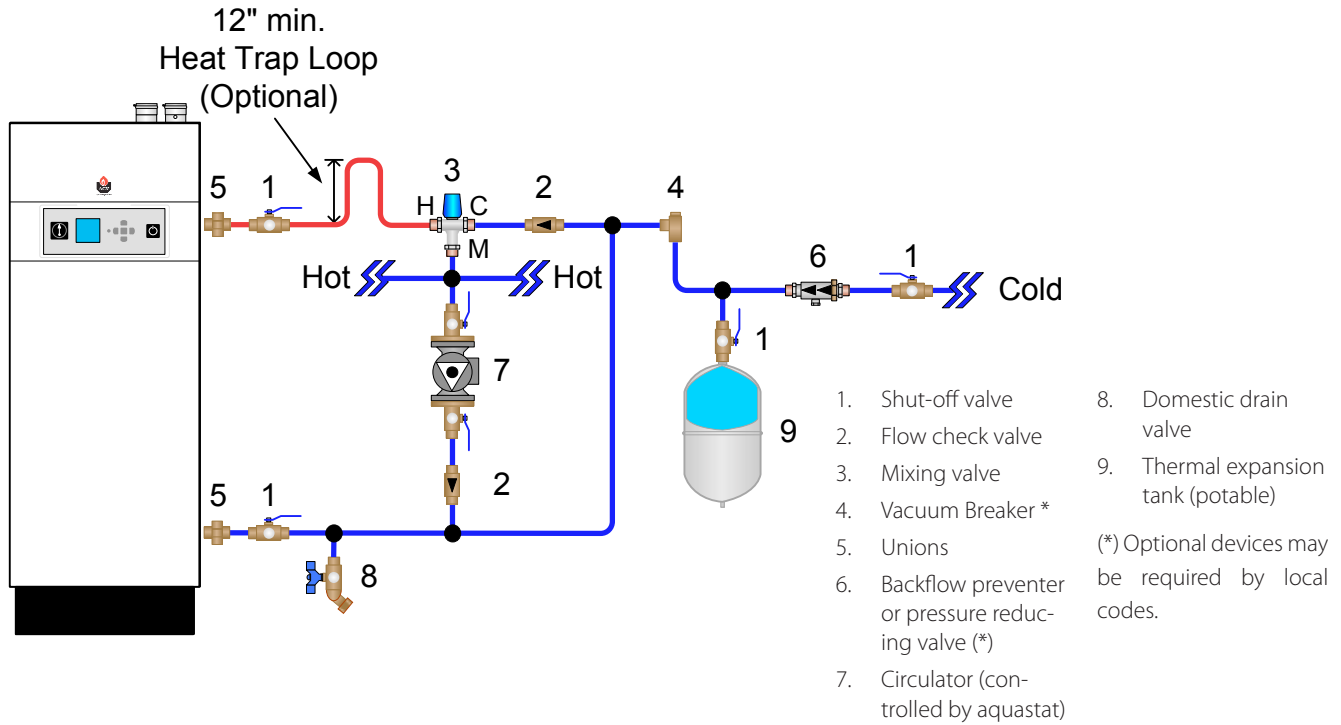
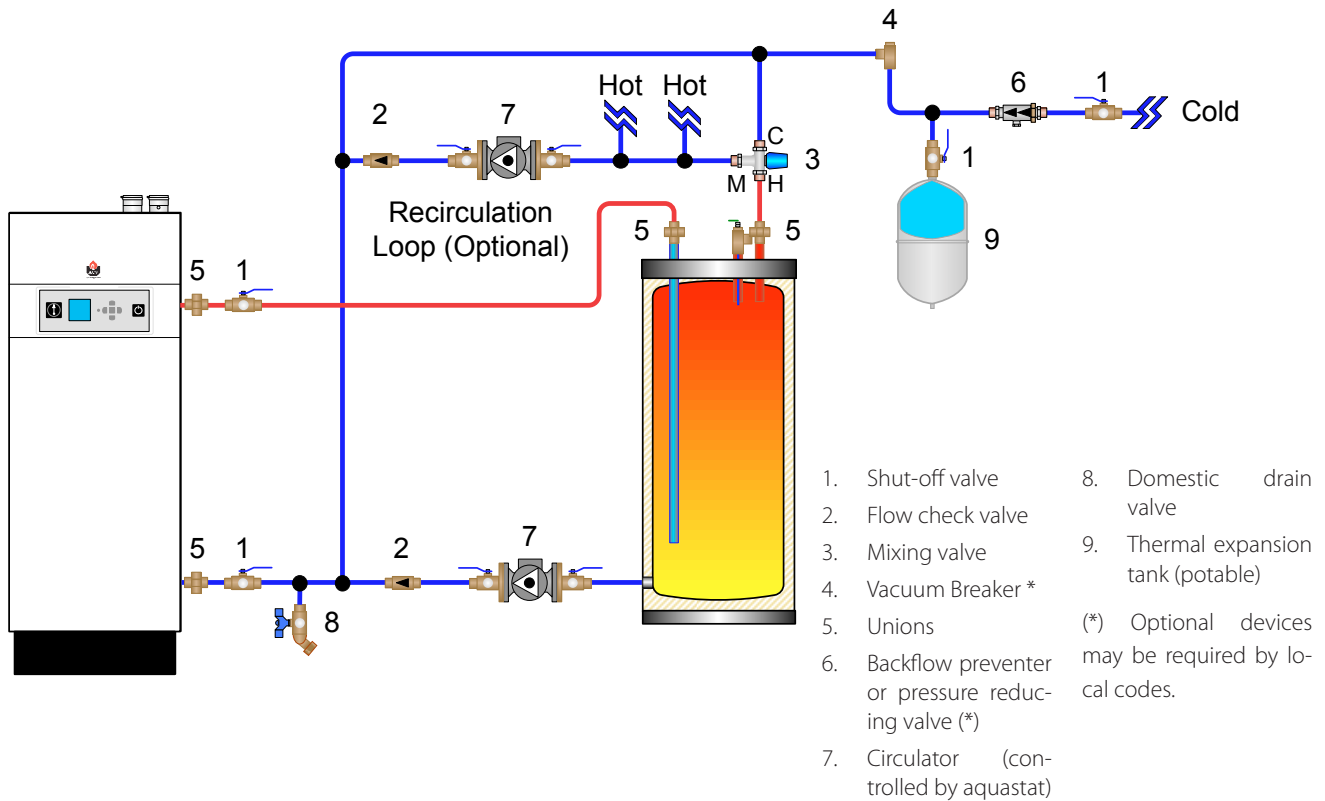

Fig. 7 - Domestic Piping with Optional Recirculation
Fig. 8 - Domestic Piping with Optional Storage Tank
- For domestic water piping diagrams, see *Fig. 6 on page 15 and Fig. 7 & Fig. 8 on page 16*.
The HeatMaster TC is factory supplied with a thermostatic mixing valve. The mixing valve must be installed as shown in *Fig. 6 on page 15 and Fig. 7 & Fig. 8 on page 16*.
Recirculation piping must be installed in the cold water inlet as shown in *Fig. 7 on page 16*.
For applications requiring large volumes of domestic hot water in a relatively short period of time, the installer may include a storage tank (see *Fig. 8 on page 16*) in the domestic piping.